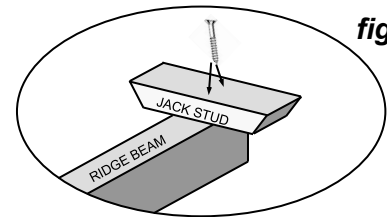

fig. 1
- Place the Ridge Beam on a level surface and use 2 x 75mm screws to secure the Jack Studs to the underside of the Ridge Beam, one at each end (fig. 1).